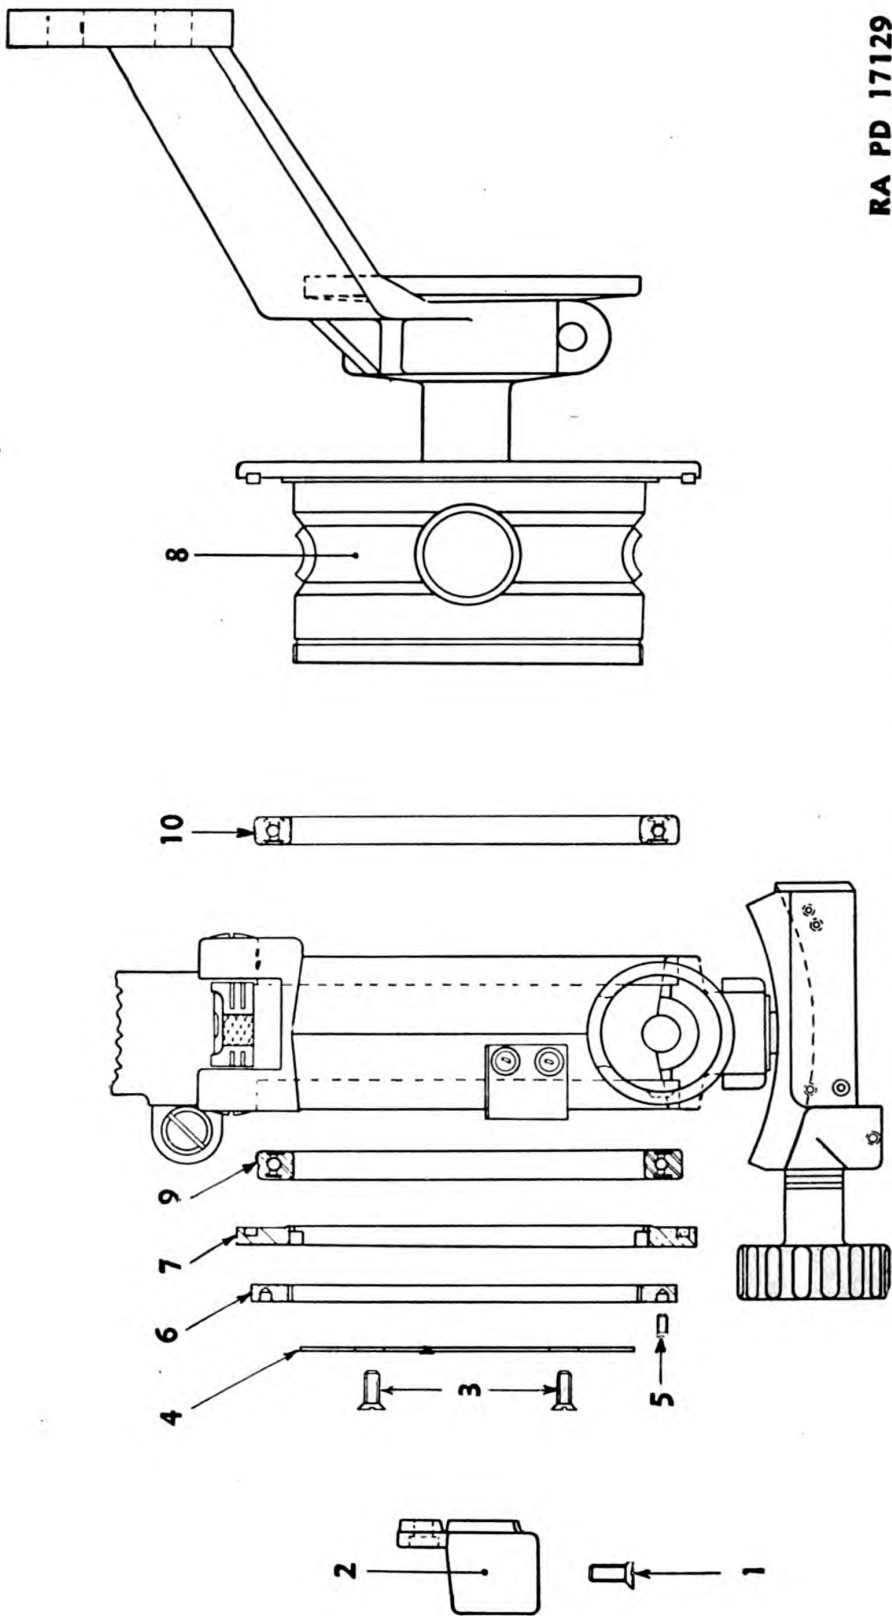

FIGURE 20.—Exploded view of actuating arm and bearings.
(b) To remove the elevating worm gear from the telescope mount body (see fig. 20), remove the three flathead screws (1) and the aligning bracket (2). Remove the two screws (3) with washer, and the elevation scale (4) and unscrew the nut (6) after loosening the locking screw (5). Extract the washer (7) from the telescope mount body. Slide the body from the elevating worm (8). The two bearings (9 and 10) can then be removed.